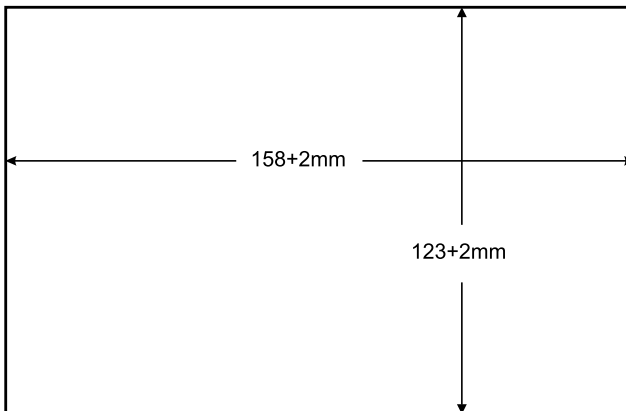

Figure 4: Cutout Dimensions
3. Following the inside edge of the template, cut a hole in the table surface with a sabre or keyhole saw according to the dimensions shown in *Figure 4* (not to scale).